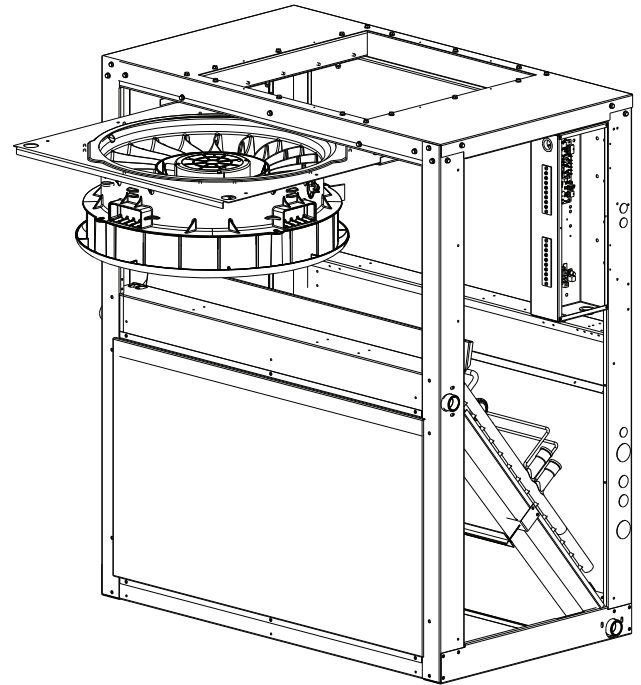

Fig. 33 — Slide Out Fan Deck Assembly
- Slide fan deck assembly out of the panel opening that is being used. Side panel access will not be allowed. See Fig. 33.